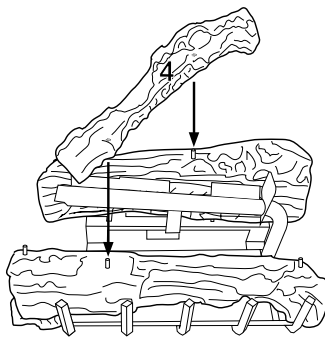

Figure 43- Installing Log No. 4
4. Place log #4 (crossover log) onto pins from both logs #2 and #3 as shown in Figure 43.